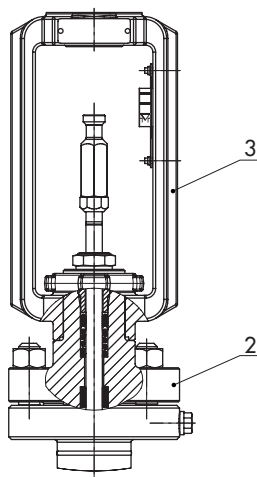
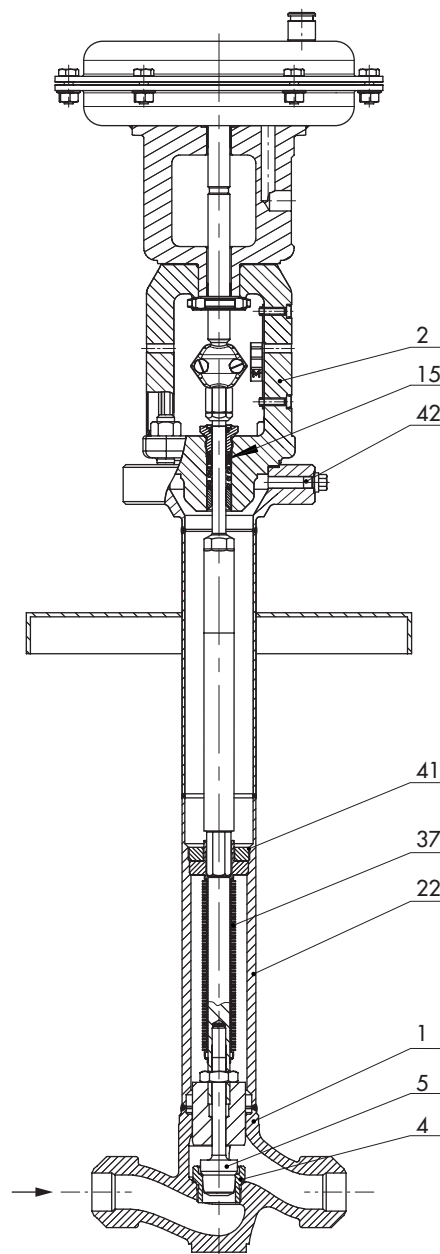

Fig. 4: Bonnet and yoke for PN 100
Fig. 5: Type 3248-7 (globe valve), PN 40
**Legend for Fig. 4 and Fig. 5**